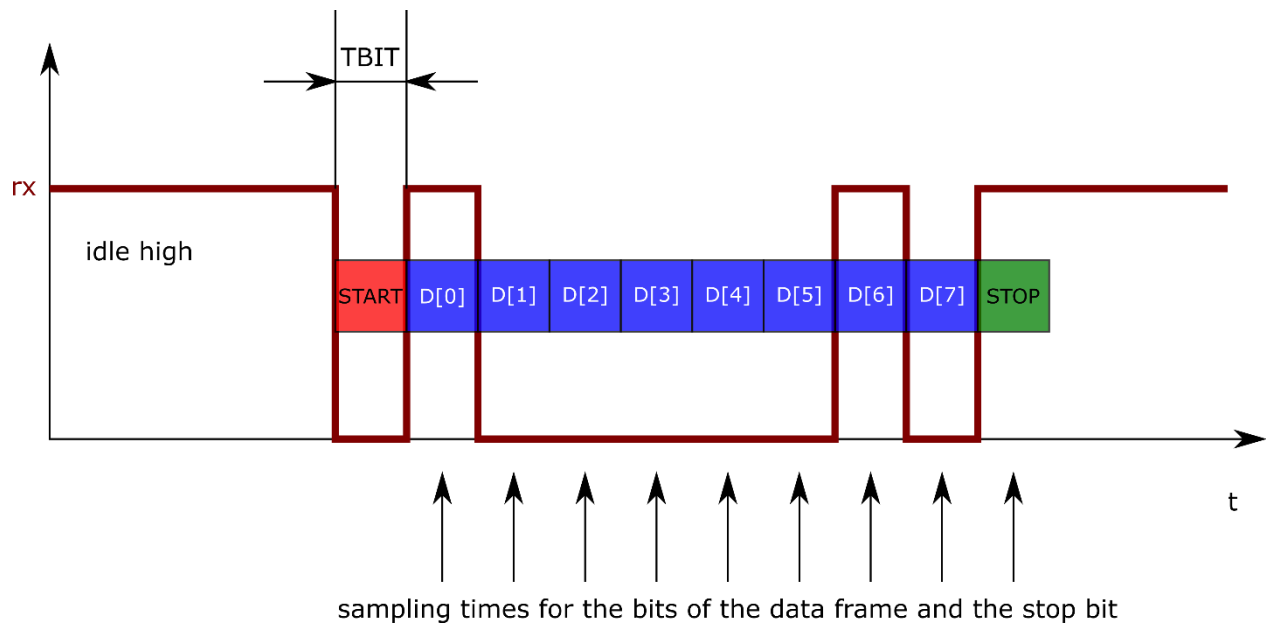

Figure 1: UART data frame.
- rx: uart rx input (One START bit, eight DATA bits (LSB first), one STOP bit). Polarity as indicated in Figure 1.